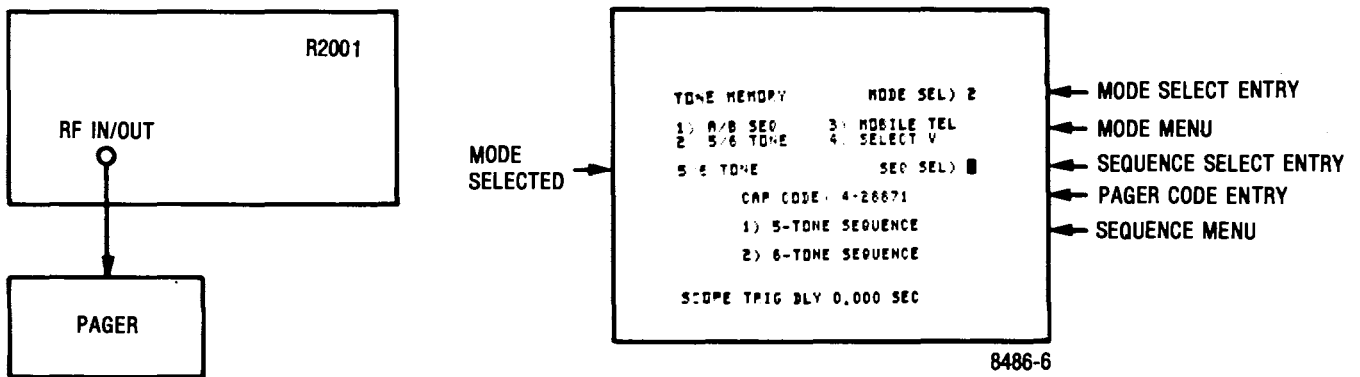

Figure 4-10. Test Setup for 5/6 Tone Pager with CRT Display
c. Test 5/6 Tone Pager decode and alert function (Figure 4-10).
8. Connect the pager as shown in Figure 4-10 and set the MODULATION switch as desired to activate the pager under test.